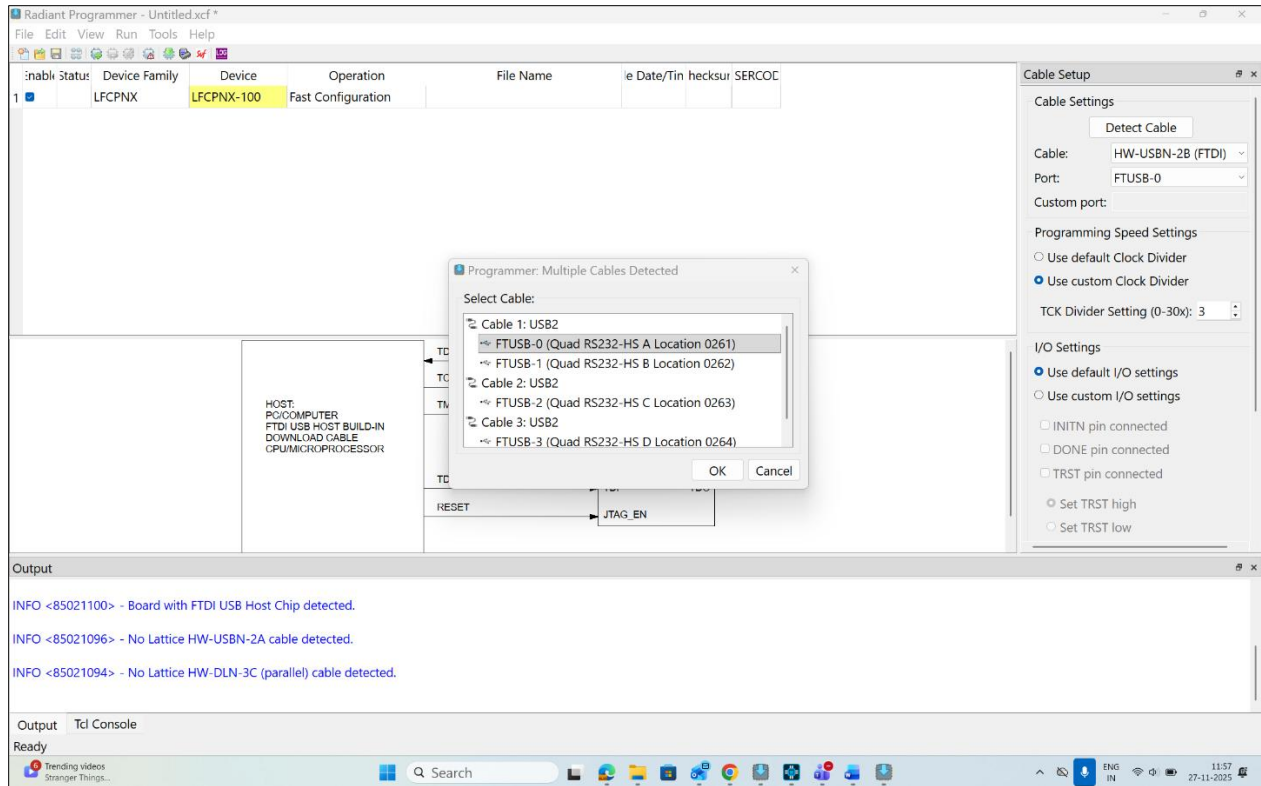

Figure 16.9. Setting Cable
2. Select the detected cable and click **OK** (Figure 16.9).